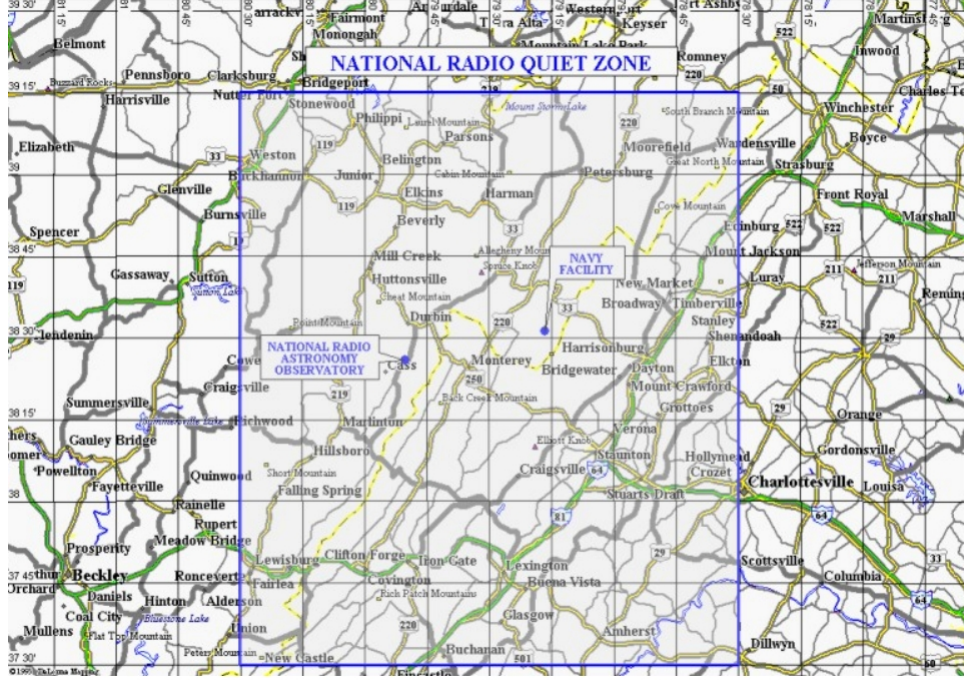

Figure 1.2: The National Radio Quiet Zone.
- **Location in the National Radio Quiet Zone:** Comparatively low RFI environment (See Figure 1.2).